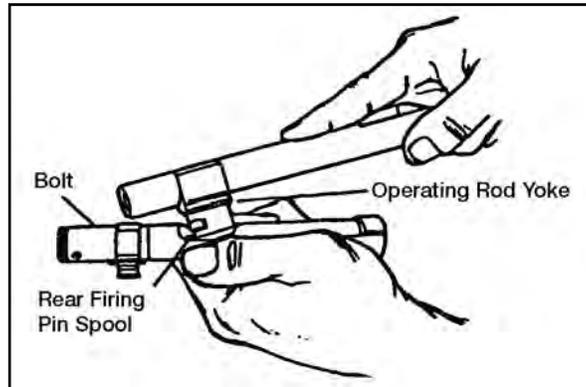

Figure 071-312-3025-13. Rear of operating rod yoke positioned against rear firing pin spool
(1) Hold the bolt securely in one hand with the camming slot up. The face of the bolt should be toward the body.
(2) Position the rear of the operating rod yoke against the rear firing pin spool with the other hand (figure 071-312-3025-13).